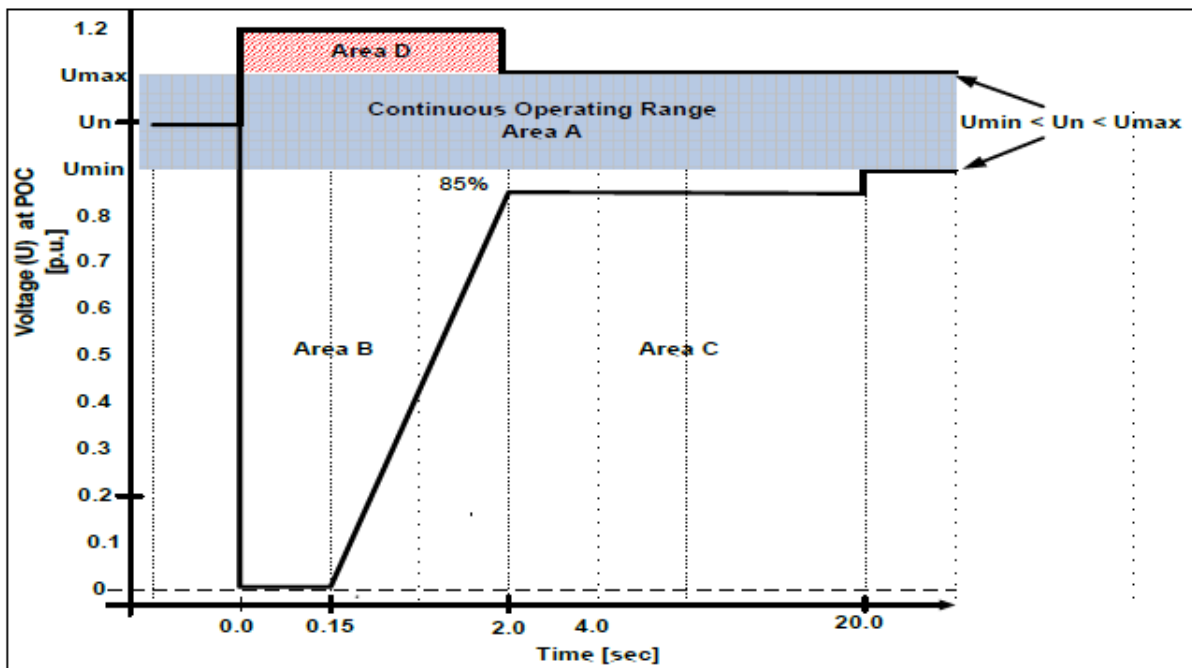
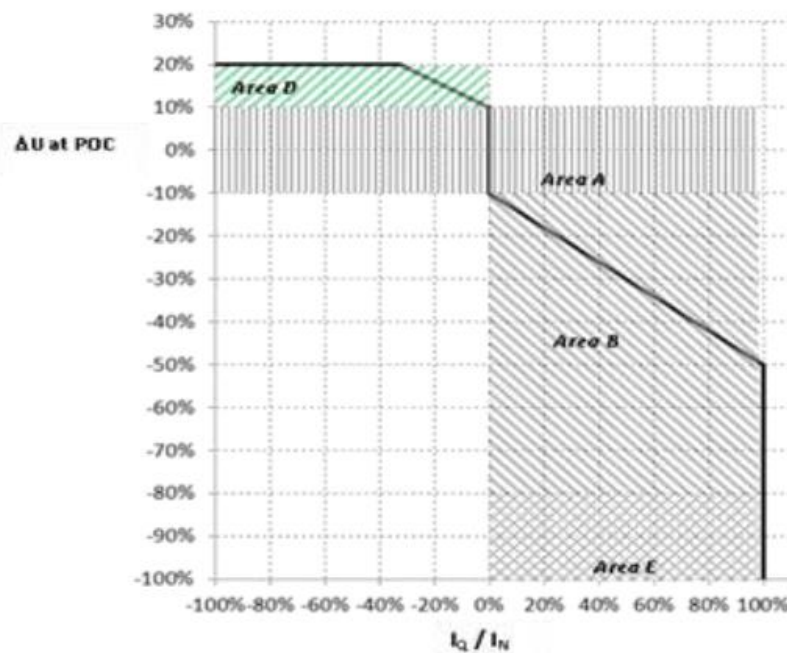

Figure 4: Voltage Ride through Capability for the RPPs of Category A3, B and C utilising non-synchronous machines
Figure 5: Requirements for Reactive Power Support, I_q , during voltage drops or peaks at the POC
RPPs of Categories A3, B and C shall be designed to withstand and fulfil, at the POC, voltage conditions described in this section and illustrated in Figures 4, 4a, 4b and 5 below. The Area D is only applicable to category C RPPs.
In connection with symmetrical fault sequences in areas B and D of Figures 4, 4a and 4b, the RPP (other than synchronous generating units) shall have the capability of controlling the reactive current, as illustrated in Figure 5. The following requirements shall be complied with:
- (ii) RPPs of category B and category C shall provide maximum voltage support by supplying a controlled amount of reactive current so as to ensure that the RPP assists in stabilizing the voltage as shown in Figure 5;
- (c) **Area D:** The RPP shall stay connected to the network and provide maximum voltage support by absorbing a controlled amount of reactive current so as to ensure that the RPP helps to stabilize the voltage within the design capability offered by the RPP, see Figure 5.
(d) Area E (Figure 5): Once the voltage at the *POC* is below 20%, the *RPP* shall continue to supply reactive current within its technical design limitations so as to ensure that the *RPP* helps to stabilize the voltage. Disconnection is only allowed after conditions of Figures 4, 4a and 4b have been fulfilled.
Control shall follow Figure 5 so that the reactive current follows the control characteristic with a tolerance of $\pm 20\%$ after 60 ms.